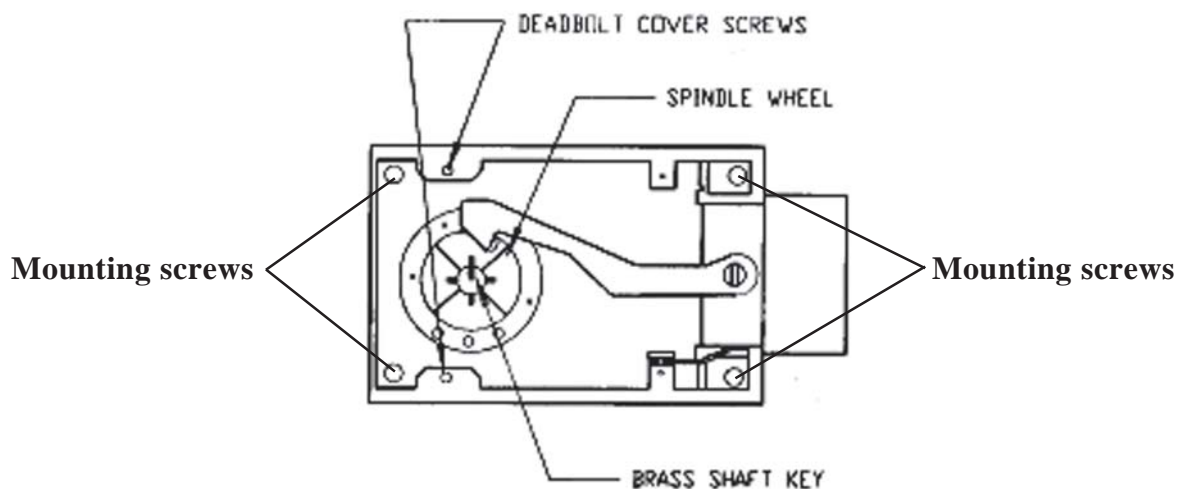

Figure 1. Mechanical lock with cover removed.
3. Remove the two (2) screws which attach the deadbolt cover to the deadbolt and remove the cover.
4. Remove the brass shaft key located in the center of the spindle by pulling directly out on it with a pair of pliers (see Figure 1). Unscrew the outer combination dial from the black spindle wheel and remove both the dial and the wheel from the lock assembly.